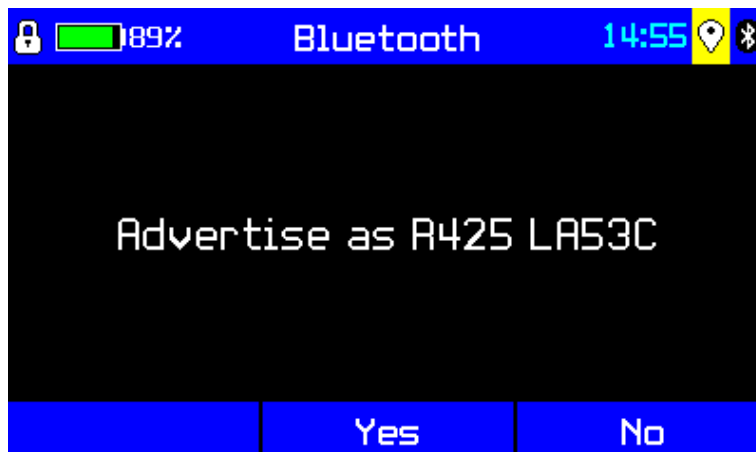

Figure 7-3: Press the M key (Yes) to make the R425 discoverable
4. Press **M (Yes)** to make the R425 available for pairing with an external device (Figure 7-3).